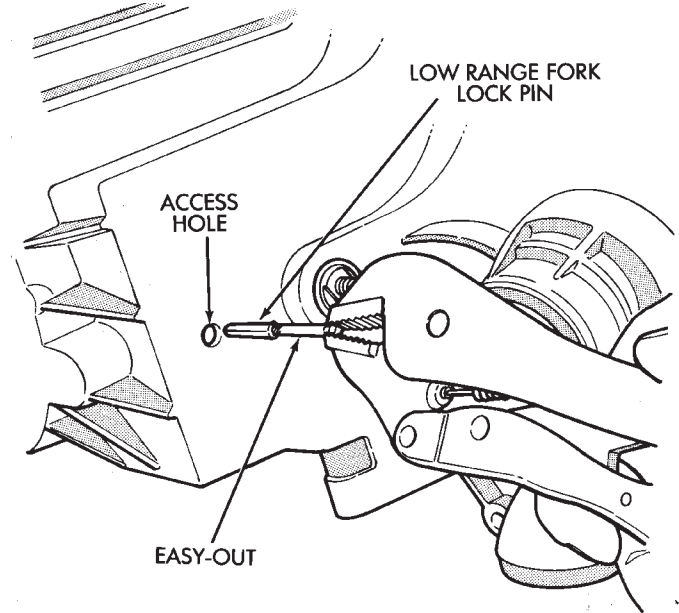

Fig. 20 Removing Low Range Fork Lockpin
(26) Remove seal plug from low range fork lockpin access hole. Then move shift sector to align low range fork lockpin with access hole (Fig. 20).
(27) Remove range fork lockpin with size number one easy-out tool. Grip easy-out tool with locking pliers and remove pin with counterclockwise, twist and pull motion (Fig. 20).